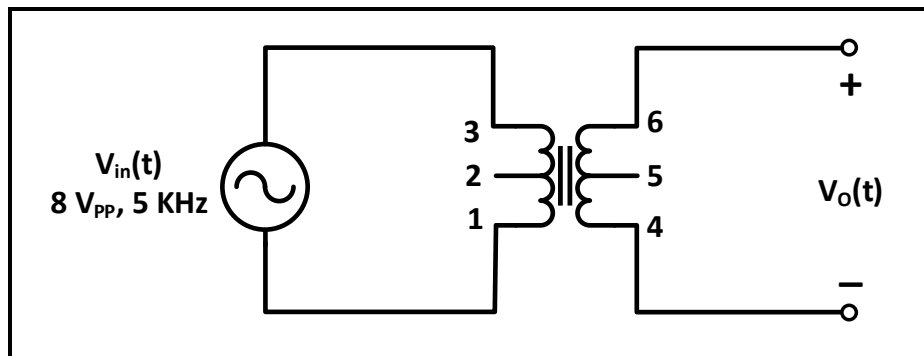

Figure 6.4
1. Connect the circuit of Figure 6.4, with $V_{in}(t)$ as a sinusoidal voltage $8 V_{PP}$ and $f = 5$ kHz.